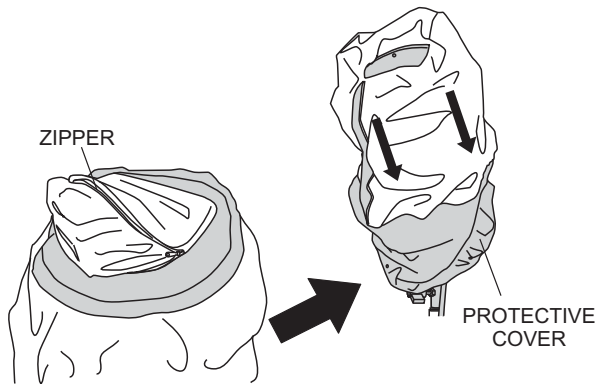

Figure 20. Unzipping the Protective Cover
2. Unzip the zipper on the protective cover (Figure 20), and pull down cover over balloon/lamp assembly.